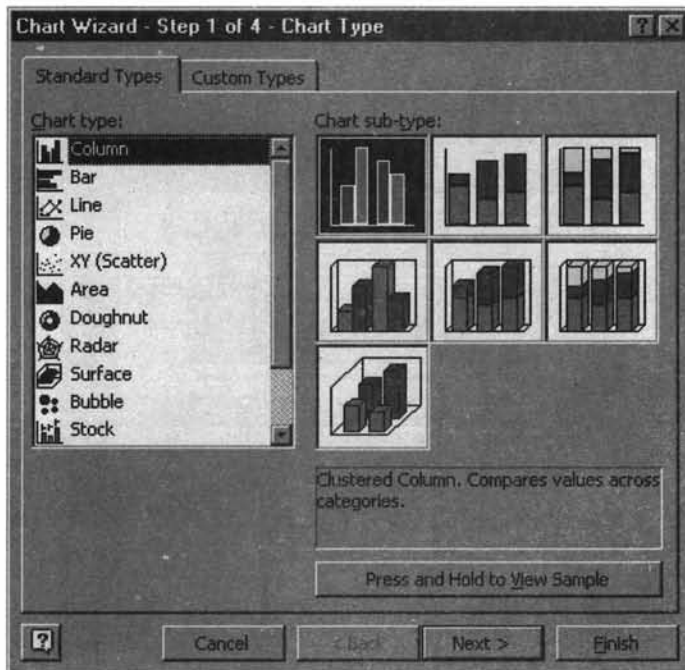

Figure 2.12
Step 2 Click with your mouse the icon depicting Chart Wizard. Highlight with your mouse the choice Column Bar in the menu. You will see the following figure 2.12.